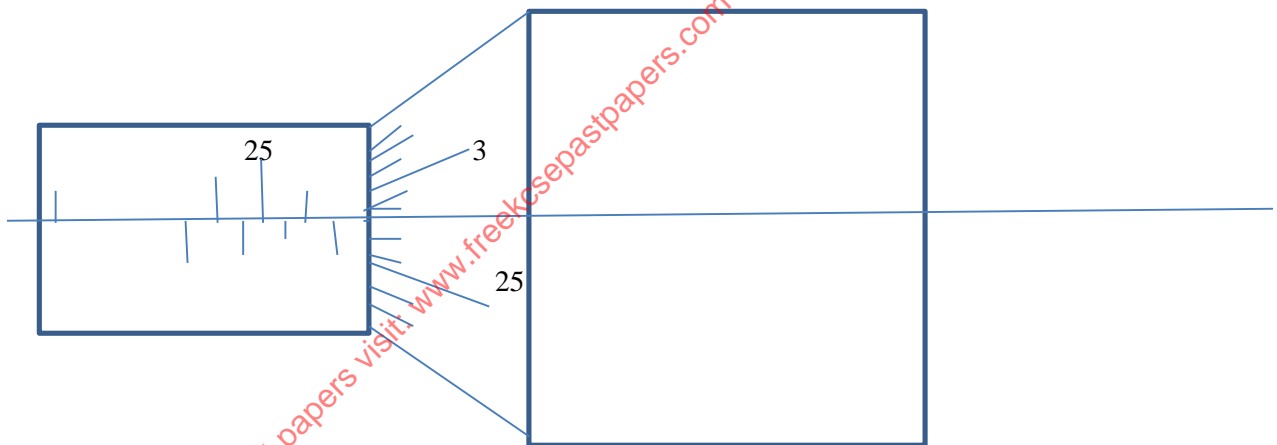

Figure 1
5. a) Give the micrometer reading in figure 1 below (1 mark)